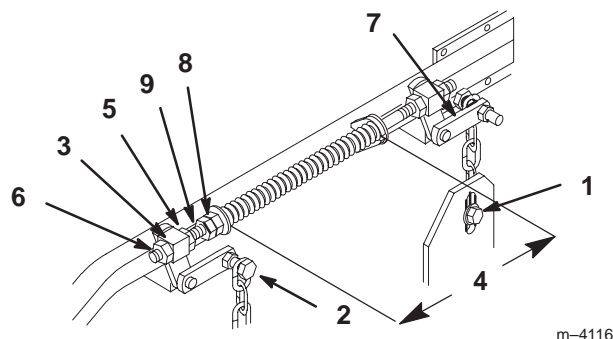

Figure 58
- Check tire pressure of all four (4) tires. If needed, adjust to 13 psi (90 kPa)
- Raise the deck to the transport position (Fig. 57). Take force off of the two large deck lift springs by loosening jam nut and front spring nut, in front of each spring, as far as possible (Fig. 58).
- Loosen bottom chain bolt in slot at rear of deck. Repeat for opposite side. (Fig. 58).
- Loosen front and rear locking nut on either side of front swivel. Loosen until front chains are loose and deck is supported by blocks. Repeat for opposite side. (Fig. 58).
- When hardware is loosened, remaining tension in the large support springs will tend to rotate the deck lift handle up, out of the 1-1/2 in. (38 mm) position. Press down on the rear deck support arm to firmly return the deck lift handle to the 1-1/2 in. (38 mm) position (Fig. 58).
9. While continuing to press down on rear deck support arm, take the slack out of the rear chain and tighten hardware at the bottom (Fig. 58). Downward pressure may now be released. Repeat for opposite side.
15. Adjust compression springs by turning the front spring nuts so the distance between the two large washers is 10-1/4 in. (260 mm). Then tighten jam nut (Fig. 58).